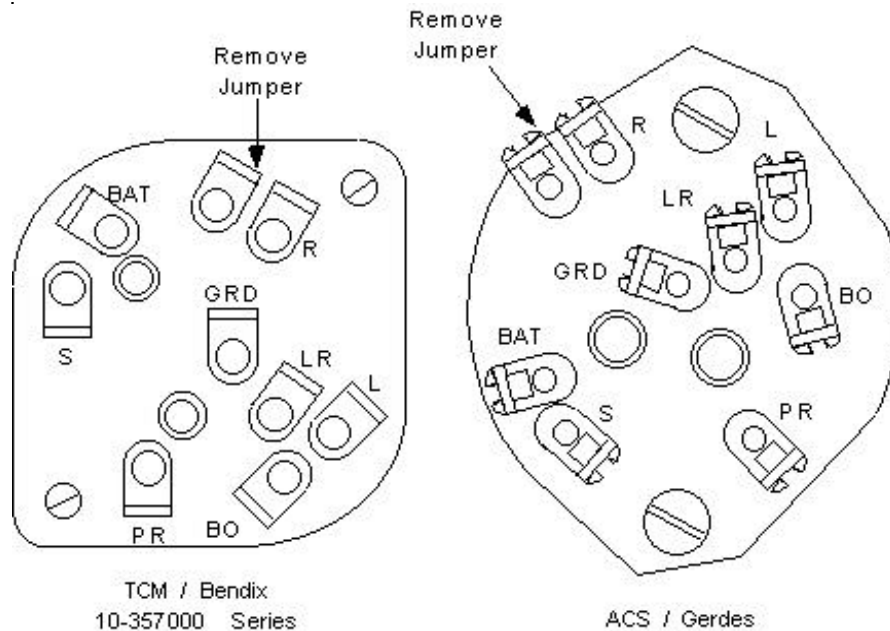

Figure 4
B. Reference Figure 4 or consult the ignition switch manufacturer's manual or aircraft wiring schematic to determine proper ignition switch configuration.